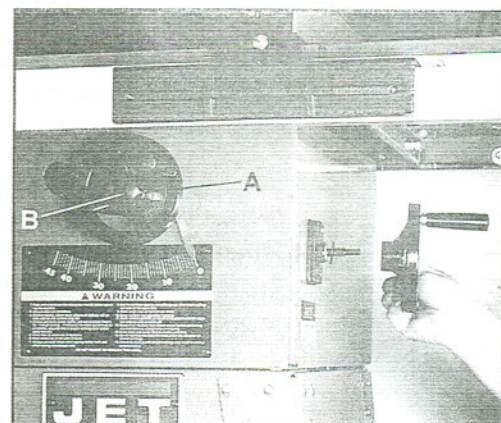

Fig. 6
2. Slide hand wheel (A, Fig. 6) onto shaft. Make sure that the slot in the handwheel hub engages the roll pin.
3. Fasten in place with a lock knob (B, Fig. 6).